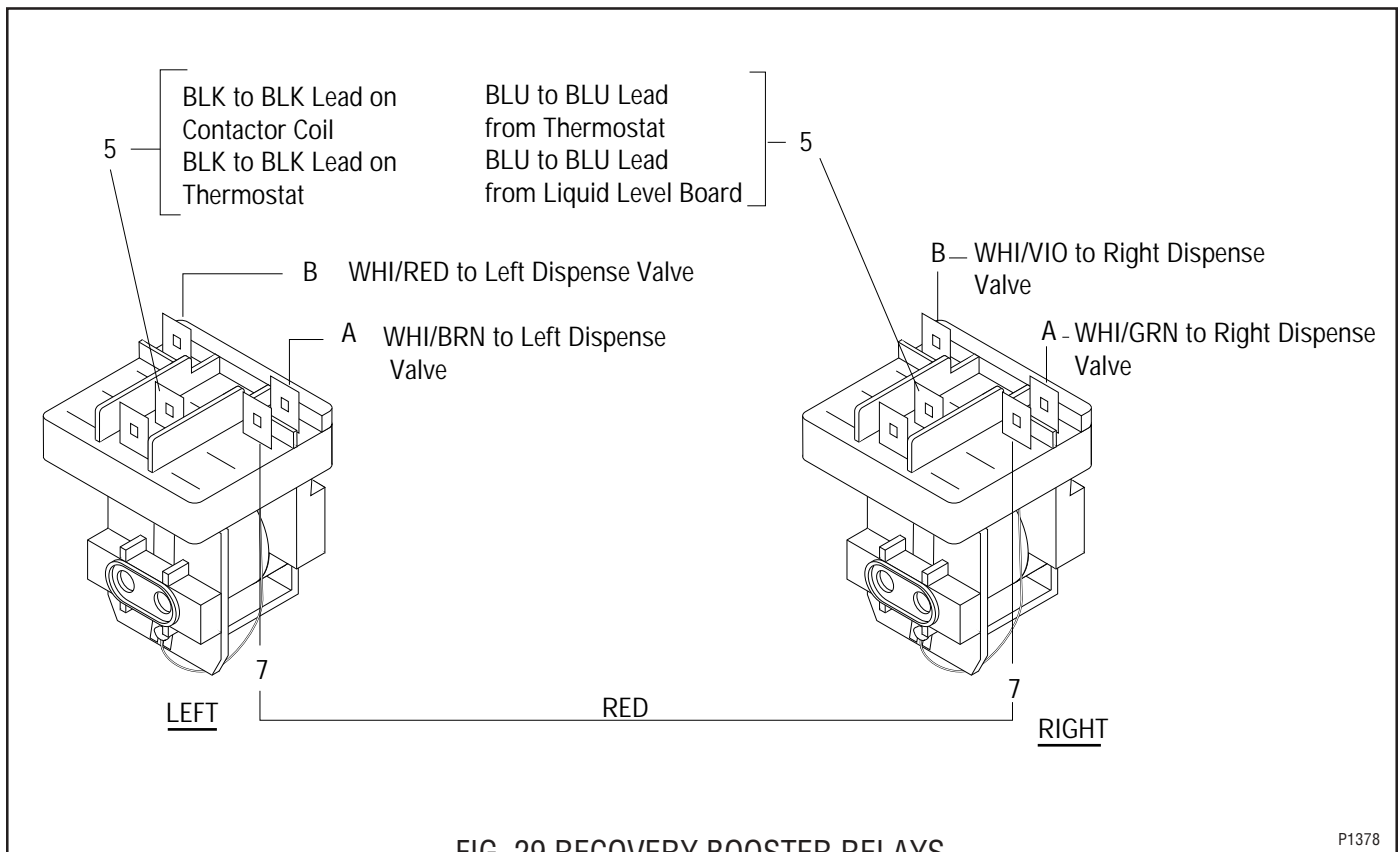

FIG. 29 RECOVERY BOOSTER RELAYS
5. Refer to Fig. 29 when reconnecting the wires.